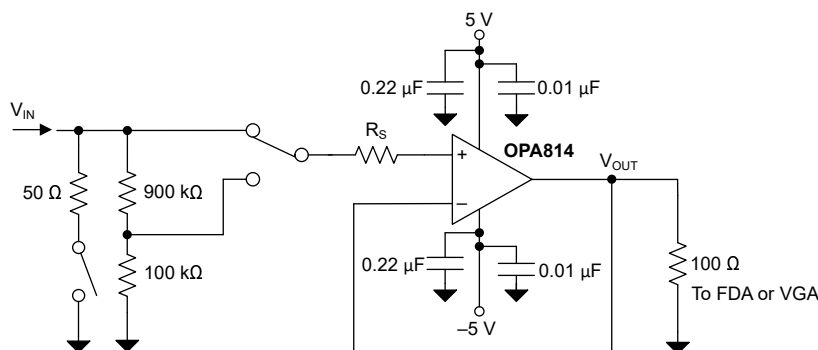
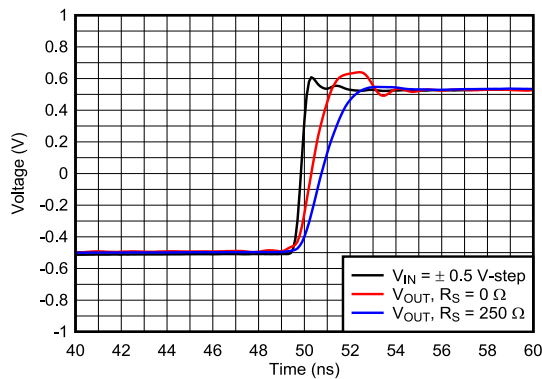
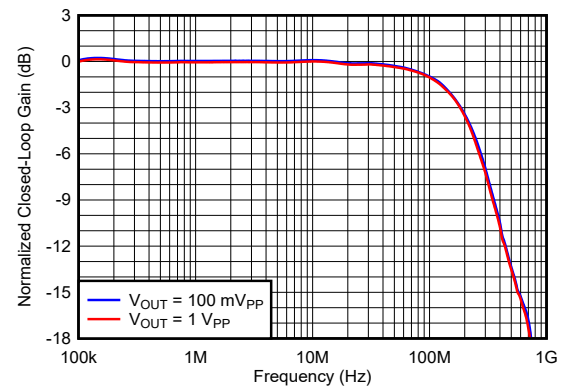

Figure 8-4. High-Input-Impedance, 180-MHz, Digitizer Front-End Amplifier
Figure 8-5. Step Response of Digitizer Front-End
Figure 8-6. Frequency Response for $R_S = 250 \Omega$
- **Optimizing Overshoot:** The OPA814 features an internal slew-boost circuit to deliver fast rise-time in applications that require high slew rates, such as when configured as a transimpedance amplifier. For applications where overshoot must be limited, limit the input slew rates by introducing a series resistance (R_S); see also Figure 8-4. Resistor R_S forms a low-pass filter with an input capacitance of approximately 2.5 pF at the noninverting pin of the OPA814, thus limiting the input slew rate to the amplifier. Figure 8-5 shows how limiting the input slew rate to the amplifier results in good overshoot performance. Figure 8-6 shows how this configuration achieves a small-signal and large-signal bandwidth of 180 MHz.